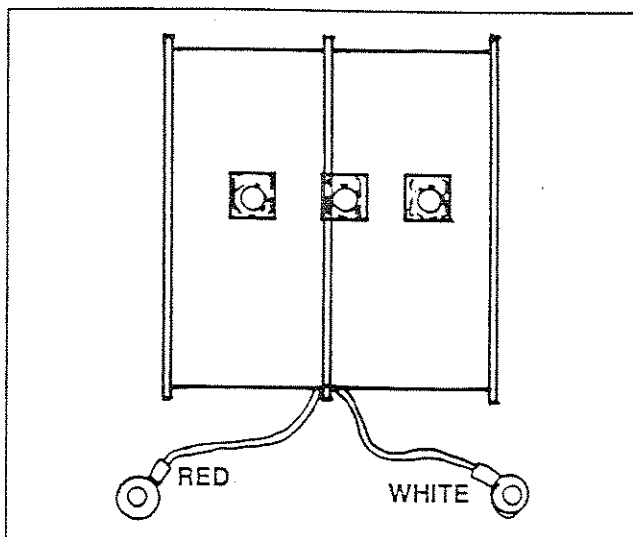

Figure 11. Solenoid Coil Test Points
4. Use an accurate volt-ohm-milliammeter (VOM) to test solenoid coil resistance, as follows (Figure 11):